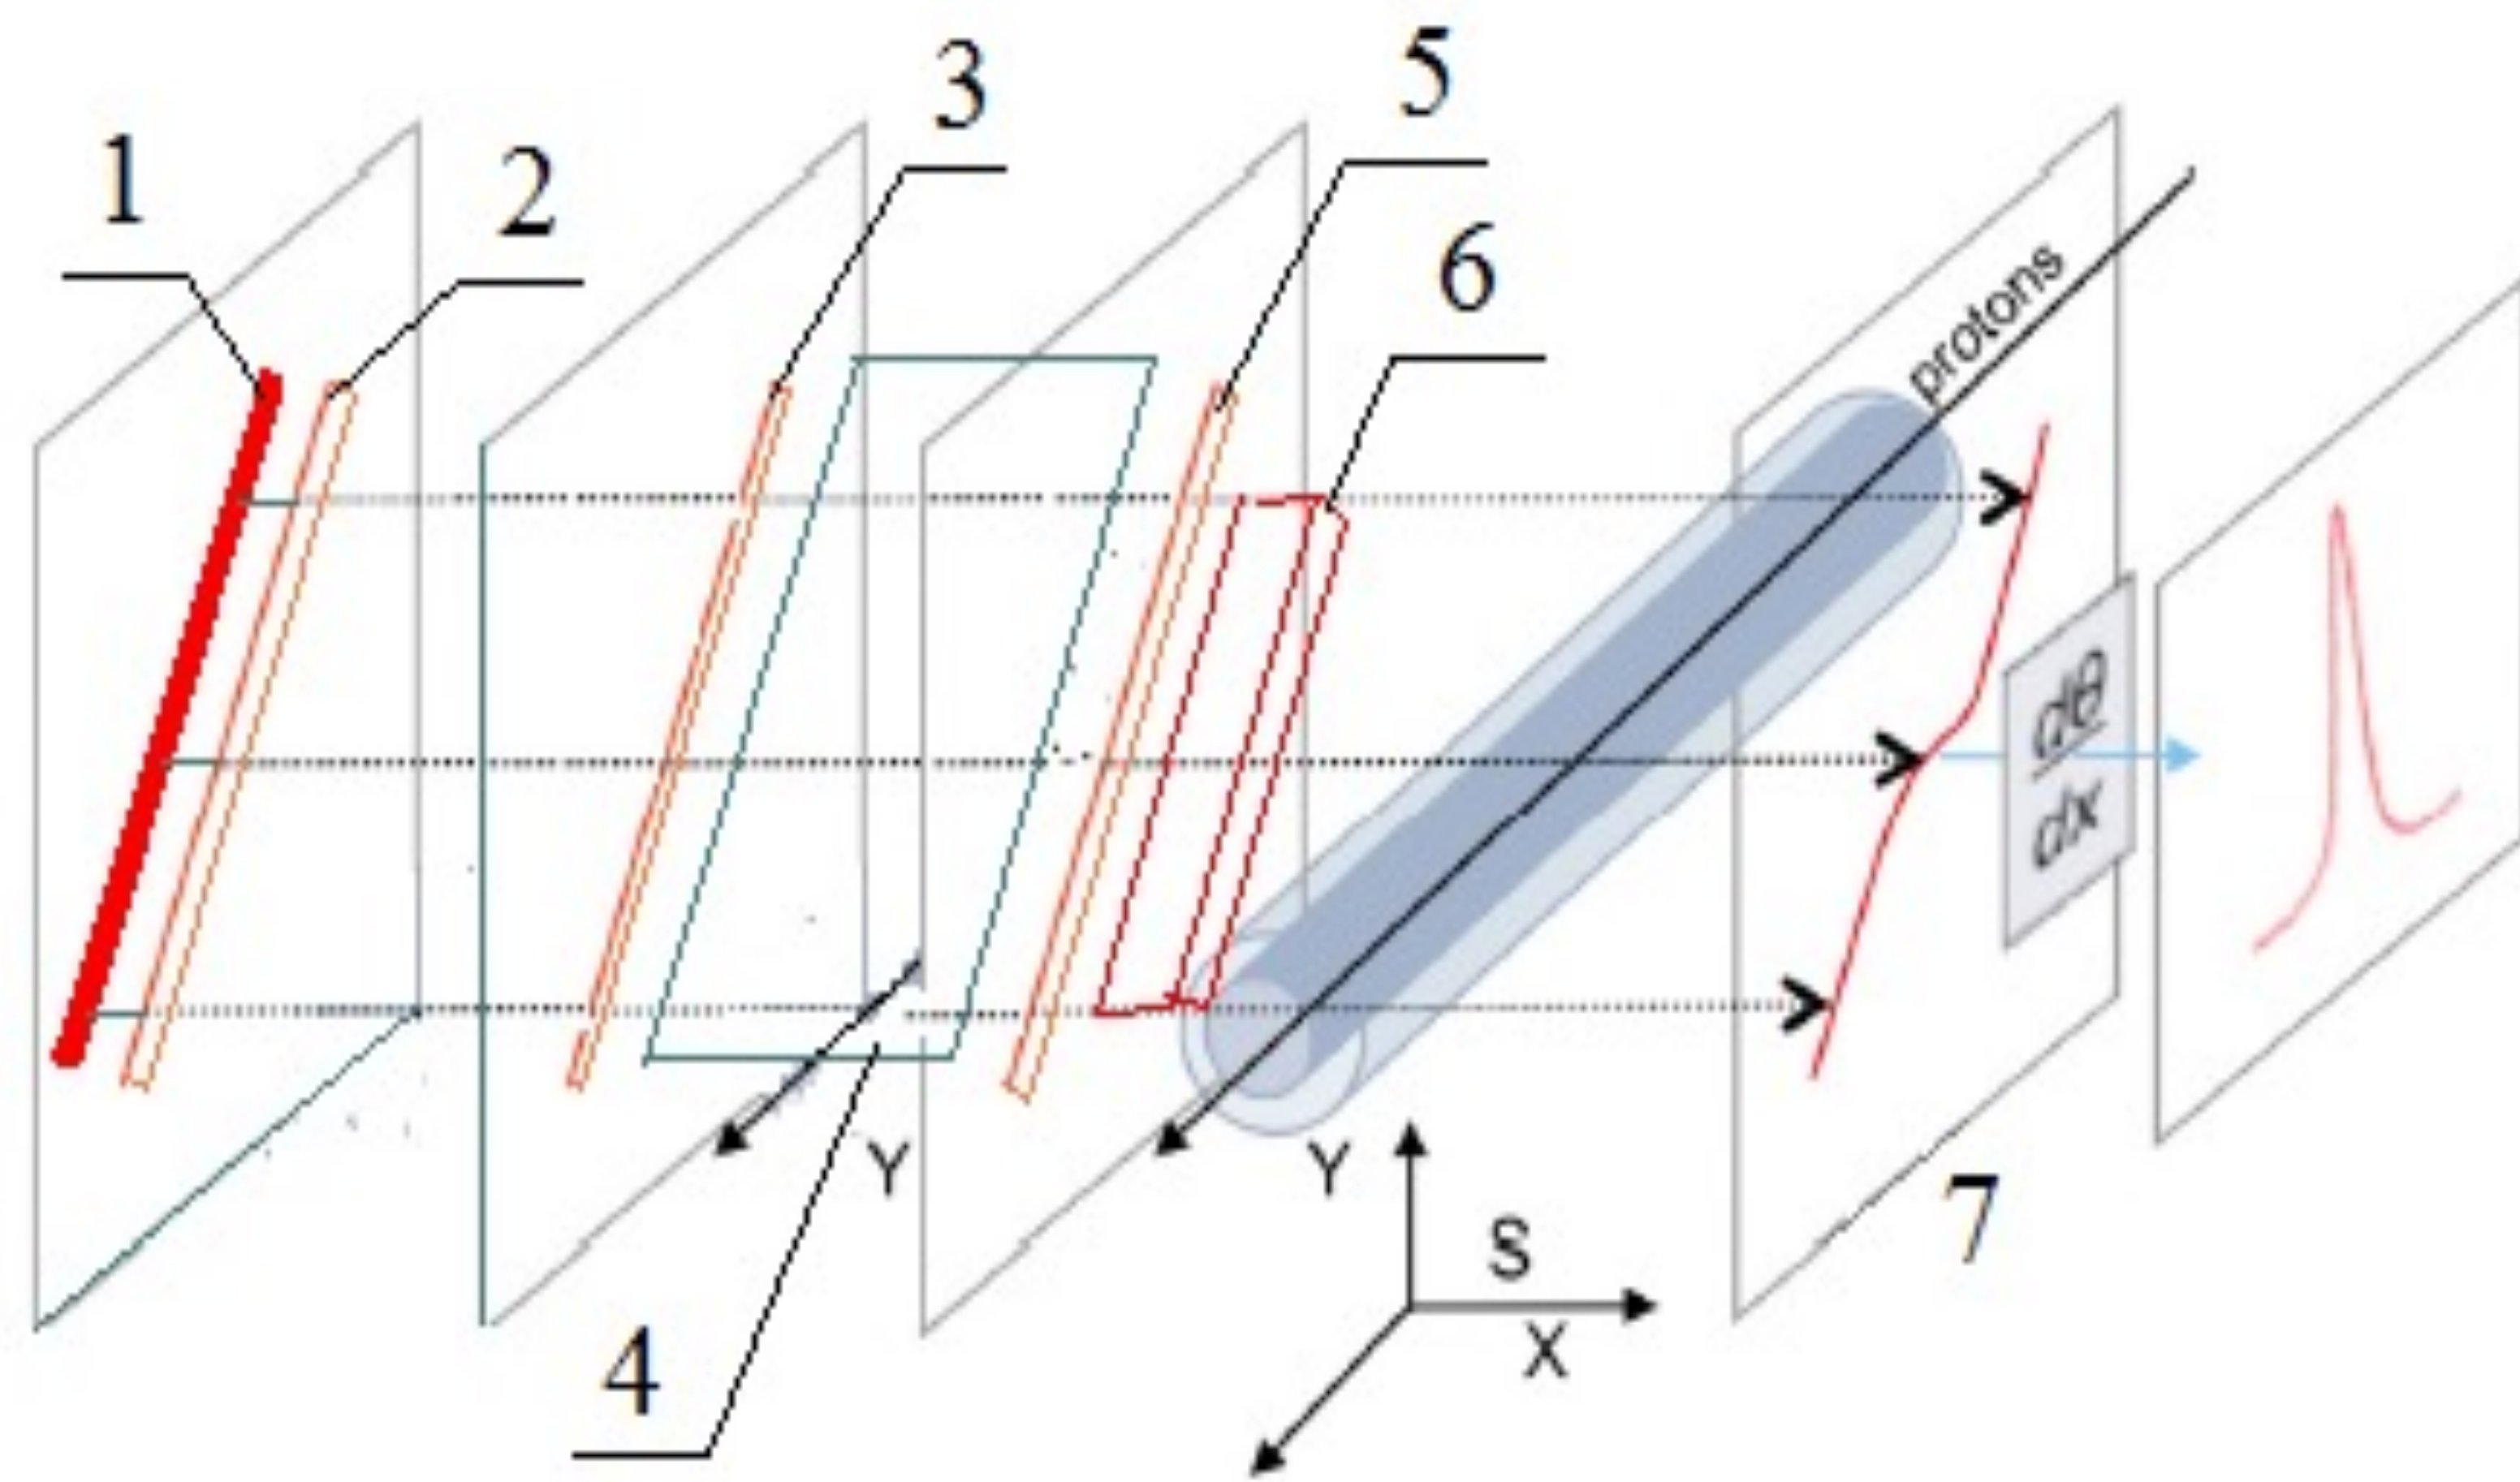

Fig. 1. Sheet electron probe beam profile monitor with a strip cathode.
The advanced sheet electron probe beam profile monitor (SEPBM) with the strip cathode is proposed as shown in Fig. 1. For the slice of sheet electron probe (6) formation is used the strip cathode (1) with extractor (2). The sheet electron probe is formed by a collimator with two slits (3) and (5). The short slide of sheet electron probe (6) formed after deflection by electric field of proton bunch is visualized on the luminescent screen (7) and fixed by a fast CCD camera for further processing by the corresponding software. This version of the SEPBM is smaller, and easy for fabrication, operation, and magnetic shielding. Several similar systems can be integrated for the production of the tomographic 3-D image of proton bunches. The proposed tomographic system is more compact, easier to operate, and less expensive than the residual gas ionization profile monitor (IPM).